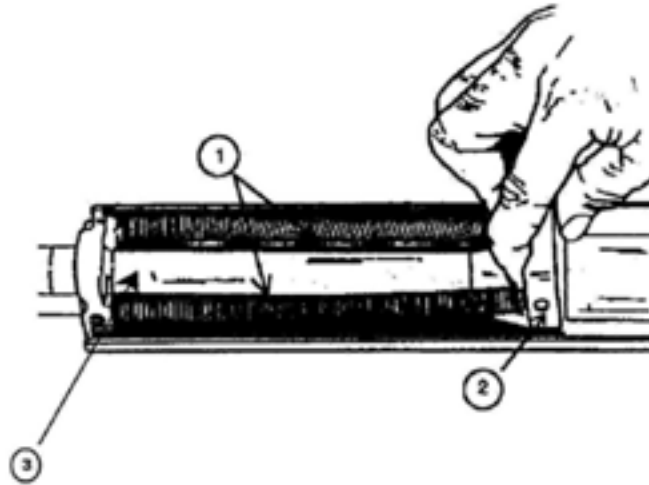

Figure 2-8. Positioning Barrel Key
5. The barrel springs (1), Figure 2-8, at the front of the upper receiver, are held together by a spring yoke—the barrel key (2). Maintaining the downward tilt of the upper receiver (to keep the barrel (3) in place) firmly grasp the barrel key—not the springs—and pull it into place on the forward slot of the barrel. Work the key from side to side until it is firmly seated in the barrel slot. The upper receiver is now fully assembled.